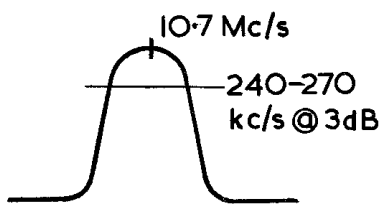

FIG. 4
4. Re-connect diode probe as before and re-set oscilloscope sensitivity. Repeat operation 2. The cores of L15 and L14 may be adjusted slightly if necessary to obtain an optimum curve shape as Fig.4.